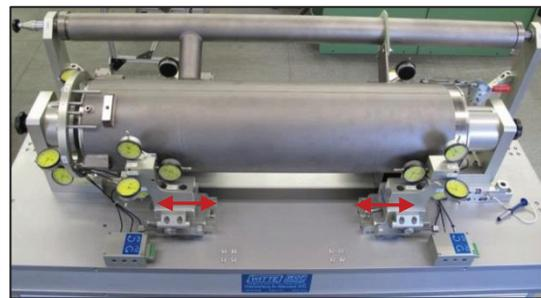

Figure 1: Control device with helium tank on place.
To minimize the cost and time for measuring a special control device (CD) (Fig. 1) is developed in cooperation with “Horst Witte Gerätebau Barskamp KG”. The incoming inspection, as designed by DESY, can be done by semi-skilled worker within half an hour. For application of a 3D measuring device people need to be trained very well and approximately 2 hours are needed for this measurement.